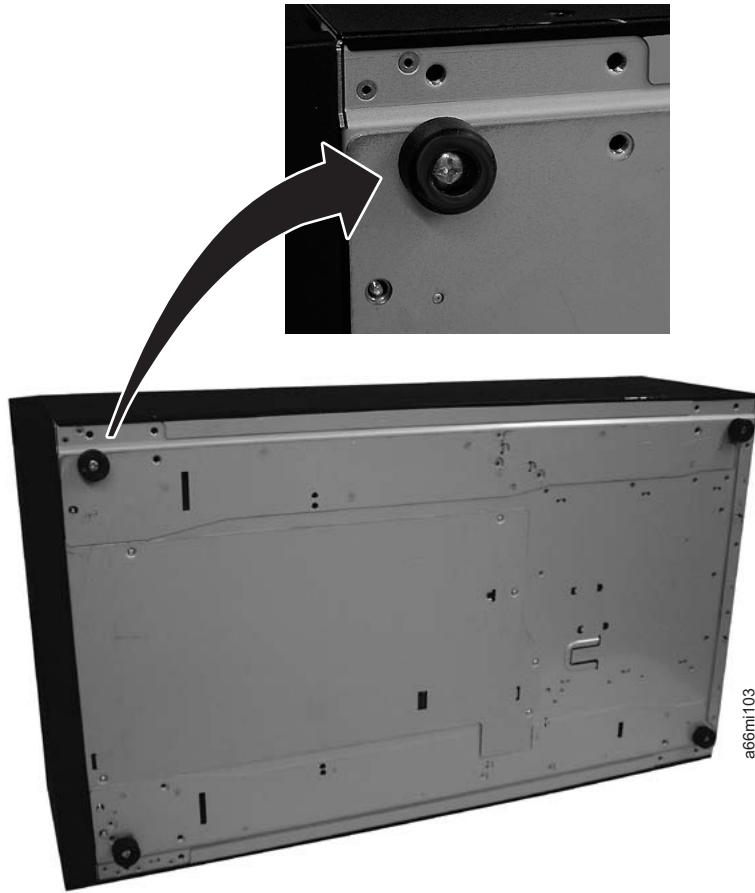

Figure 4-18. Foot pad Locations
2. Using a #2 Phillips screwdriver, install the foot pads on the bottom of the library chassis. See Figure 4-18 on page 4-16 for foot pad locations.